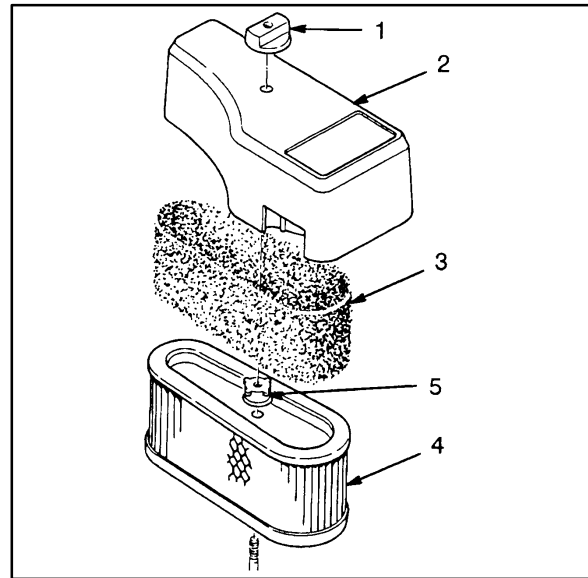

Figure 6
2. Remove the knob and air cleaner cover (Fig. 6).
3. Every 25 hours the foam pre-cleaner should be cleaned (Fig. 6). Remove foam pre-cleaner by sliding it off the paper cartridge (Fig. 6).
4. The paper air cleaner cartridge should be replaced every 100 hours. Remove the nut from the top of the paper cartridge (Fig. 6).